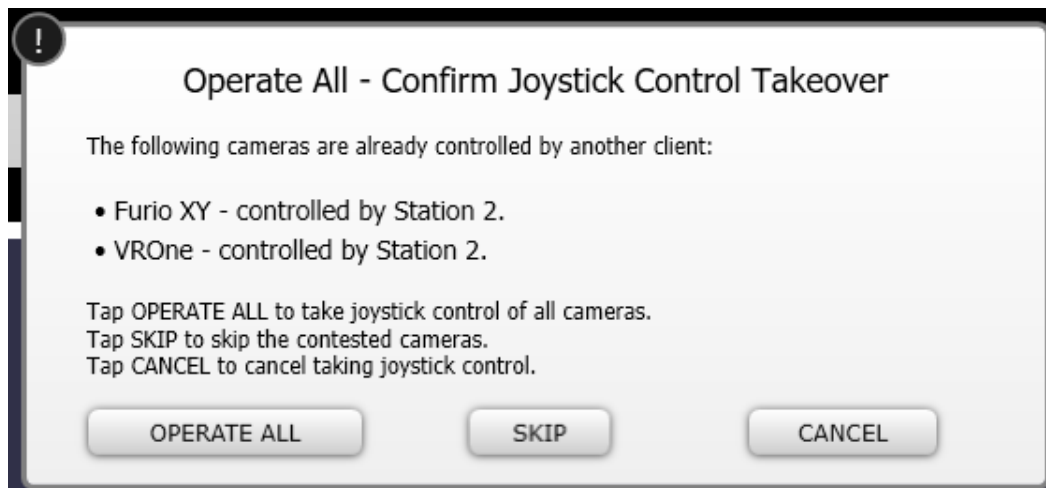

Figure 107 - OPERATE ALL - Confirm Joystick Control Takeover dialog box
2. In the **Operate All** dialog box, tap **Operate All** (Figure 107).